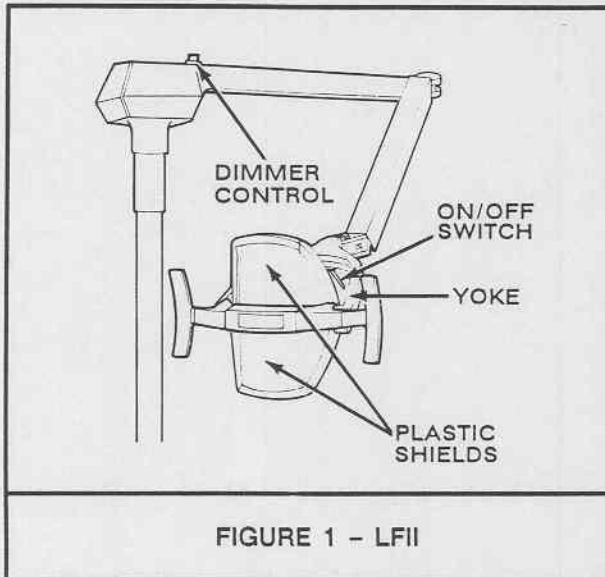

FIGURE 1 - LFII
**1.01 Dimmer Control (Figure 1)**—The dimmer control is located on back of the rear arm. It can be adjusted to three levels of intensity. The LO, Med and HI settings provide approximately 1500, 2000 and 2500 footcandles of light intensity, respectively.
**1.02 ON/OFF Switch (Figure 1)**—The ON/OFF switch is conveniently located behind the head and is within easy operator reach.